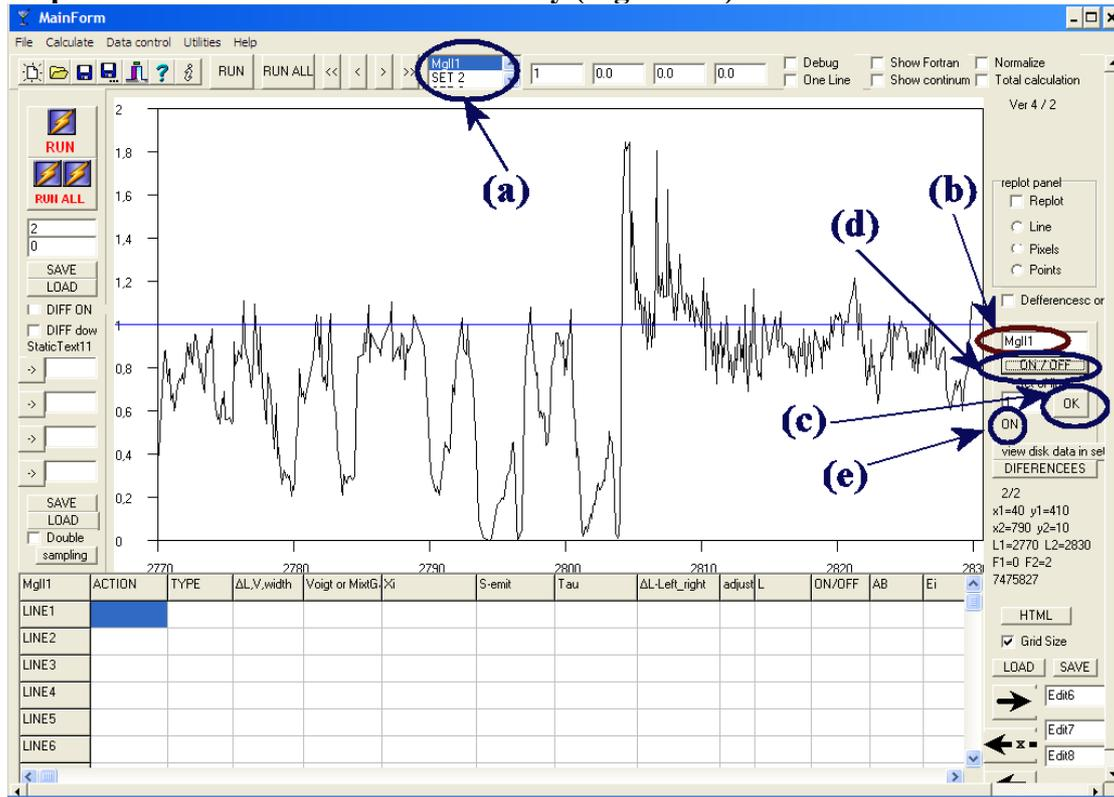

Figure 2.3
Step 2: Definition of the line under study (Figure 2.3)